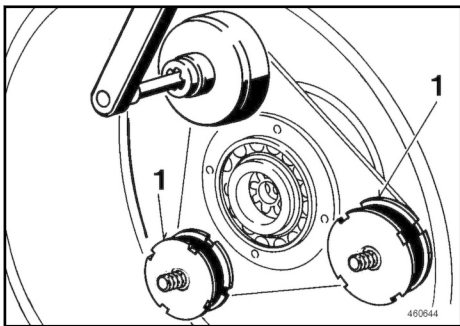

Fig. 213
1. Examine all rubber buffers 1 ↪ Fig. 213 for wear, replace if necessary.